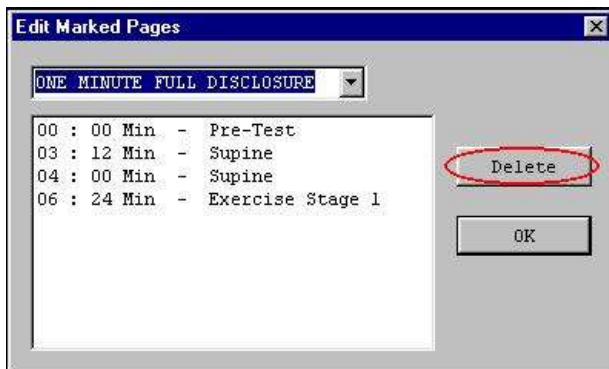

Fig: 6.2 Edit Marked pages
- To edit the pages in the report press '**Edit marked pages**' button. Dialog box as shown in the fig 6.2 will appear on the screen.